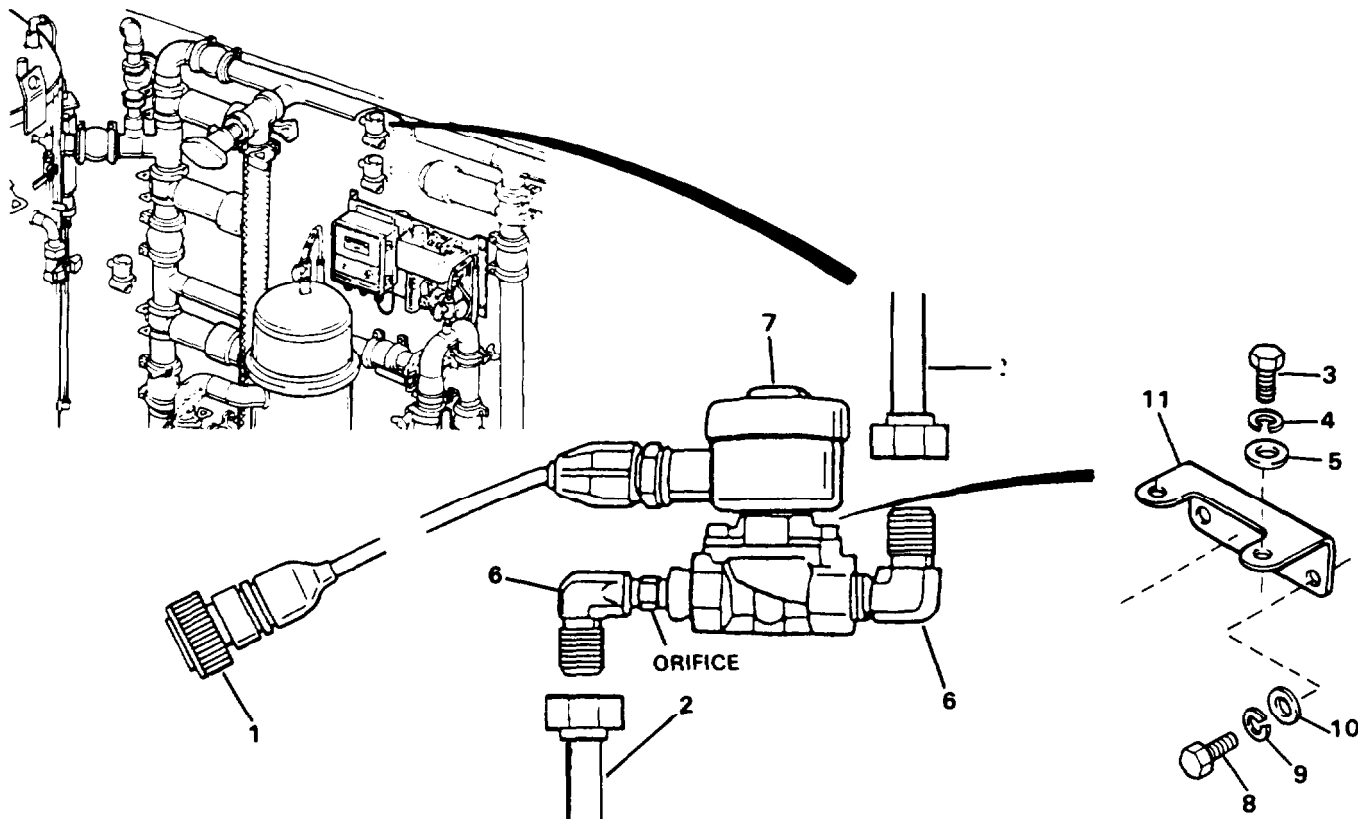
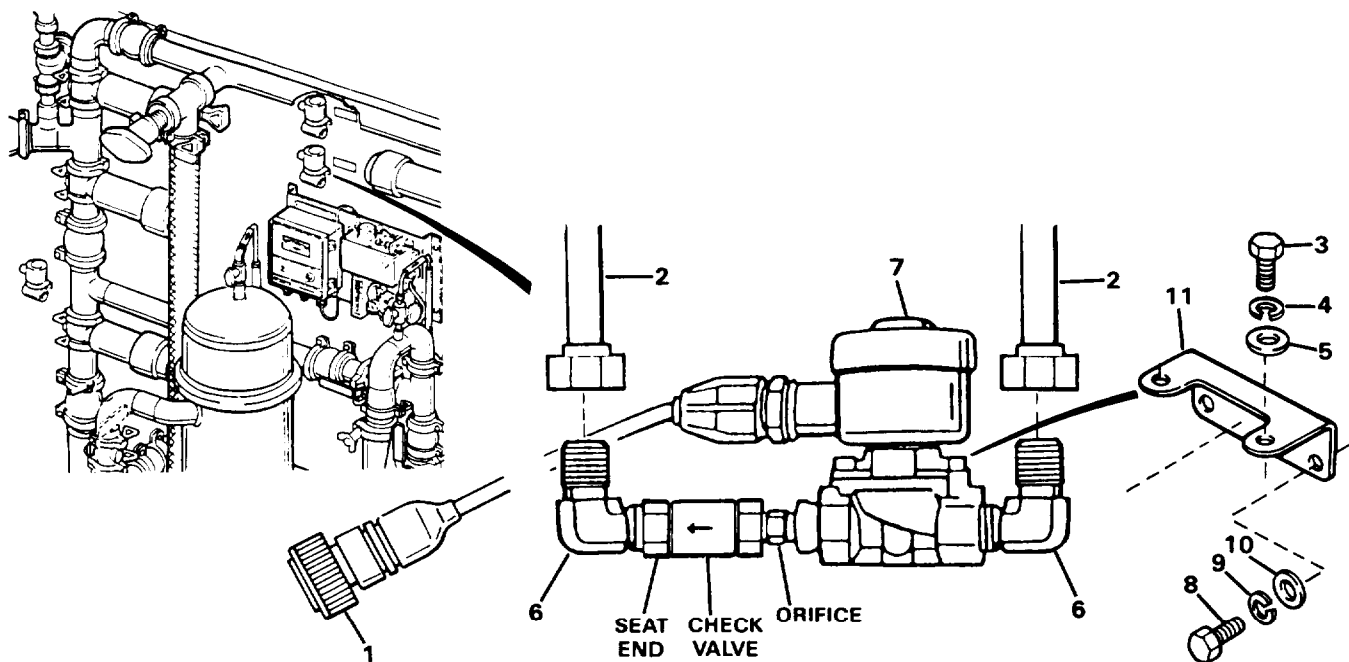
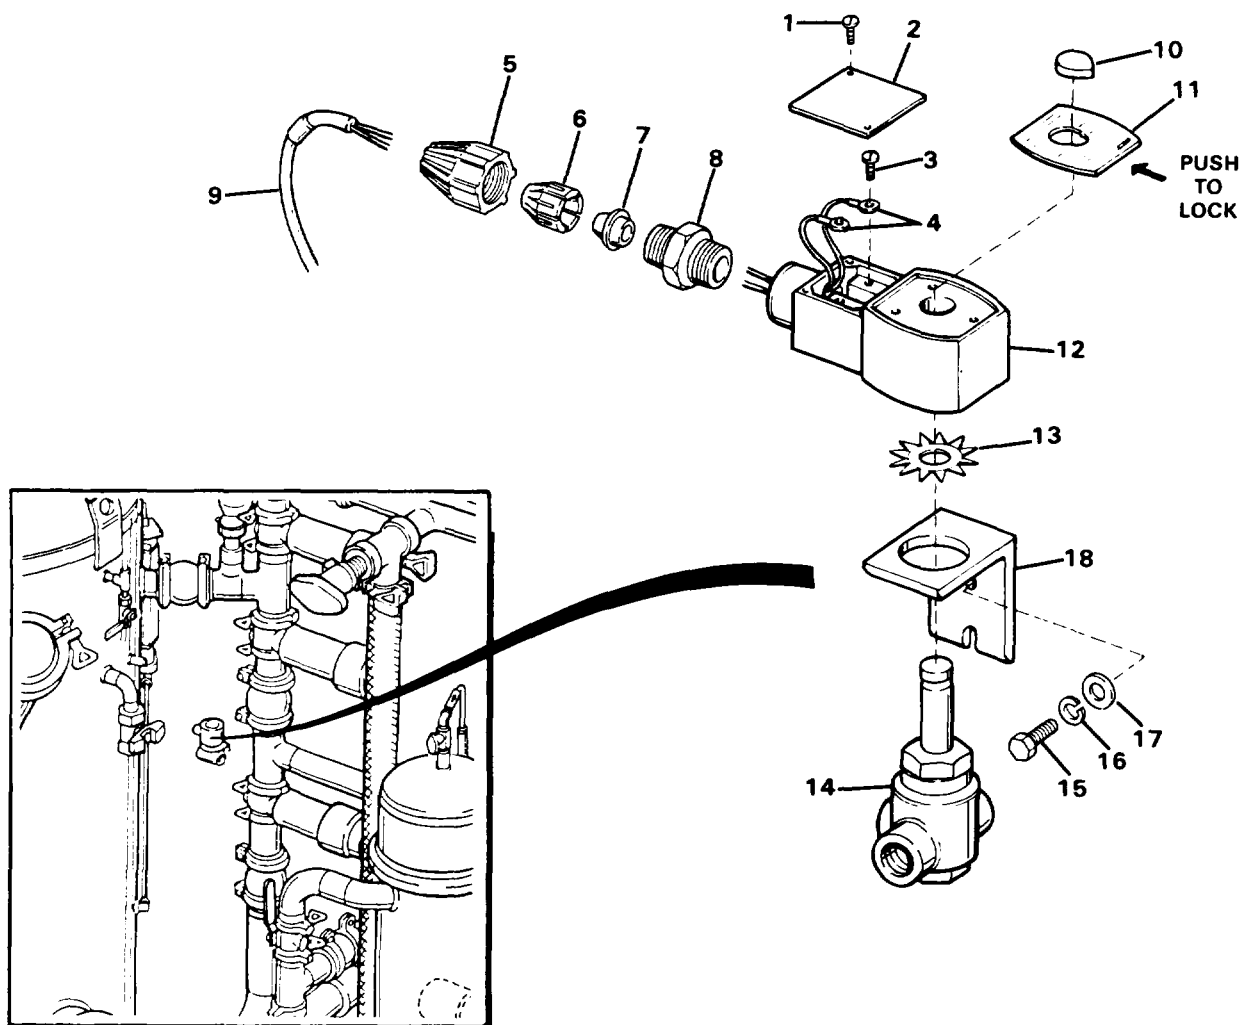

Figure 4-58. Backwash Air Inlet Solenoid Valve
Figure 4-59. Air Blanket Solenoid Valve
Figure 4-60. Solenoid Valve (for Safety Valve)
There are three low pressure solenoid valves located as shown in Figures 4-58, 4-59 and 4-60. The removal and installation procedures for Figures 4-58 and 4-59 are identical. Procedures for Figure 4-60 are covered separately.
a. Refer to Figures 4-58 and 4-59 and remove the air blanket solenoid valve and backwash air inlet solenoid valve as follows:
- (1) Disconnect plug (1) from associated jack.
- (2) Disconnect air tubing (2) from elbow (6).
- (3) Remove two capscrews (3), lockwashers (4) and washers (5). Valve (7) is now free.
- (4) Remove two capscrews (8), lockwashers (9) and washers (10) if bracket (11) requires replacement.
b. Refer to Figure 4-60 and remove the solenoid valve as follows:
- (1) Disconnect tubing from valve.
- (2) Remove two screws (1) and cover (2).
- (3) Tag terminals (4) and remove two screws (3).
- (4) Loosen nut (5) and slide nut (5), retainer (6), and bushing (7) onto cable (9) away from connector body (8).
- (5) Unscrew connector body (8) from solenoid body(12) and remove cable (9) with connector body(8), bushing (7), retainer (6) and nut (5).
- a. Replace elbow (6, Figures 4-58 and 4-59 and 8, Figure 4-60) if necessary.
- b. Remove check valve (Figure 4-59).
- c. Remove orifice (Figures 4-58 and 4-59).
- a. If blockage of check valve (Figure 4-59) is indicated, clean out check valve (para. 4-10).
- b. Clean out orifice (Figure 4-58 and 4-59).
- a. Install orifice (Figures 4-58 and 4-59).
- b. Install check valve (Figure 4-59).
- c. Install elbows (6, Figures 4-58 and 4-59 and 8, Figure 4-60).
- a. Refer to Figures 4-58 and 4-59 and install the backwash air solenoid and air blanket valves as follows:
- (1) Install orifice into valve body.
- (2) Install check valve onto orifice (Figure 4-59).
- (3) If removed, install bracket (11) using capscrews (8), lockwashers (9) and washers (10).
- (4) Install valve (7) on bracket (11) and secure with capscrews (3), lockwashers (4) and washers (5).
- (5) Install air tubing (2) and connect plug (1).
- b. Refer to Figure 4-60 and install the safety valve solenoid valve as follows:
- (1) If removed, install bracket (18) and secure with twocapscrews (15), lockwashers (16) and washers (17).
- (2) Position valve (14) under bracket (18) as shown.
- (3) Install star washer (13) and solenoid body (12).